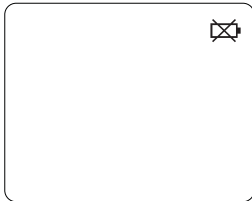

Figure 8
1. Replace battery when "  " appears in the upper right corner of LCD display. (See Figure 8)